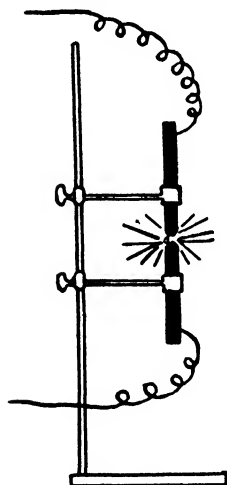

FIG. 84.—The electric arc.
6.—Secure two electric light carbons and fasten to one end of each a heavy copper wire. Mount these carbons in a vertical position on a ring stand by means of clamps as shown in Fig. 84 and insulate the carbons from the clamps with asbestos paper.